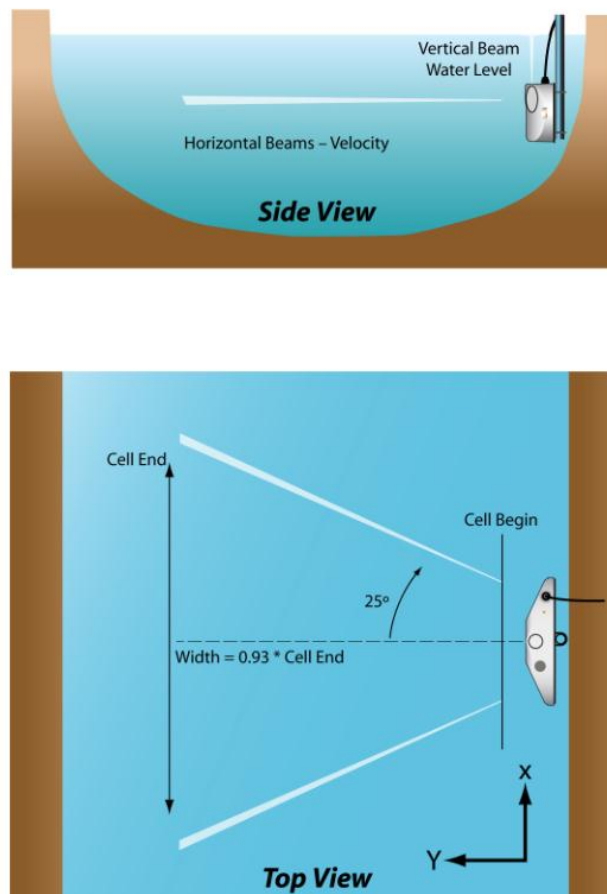

Figure 88. SL Beam Geometry
- The system uses two acoustic velocity beams in a single plane, each slanted 25° off the instrument axis. This beam geometry is designed for side-looking applications, giving the optimal balance between 2D velocity response and total measurement range (Figure 88).